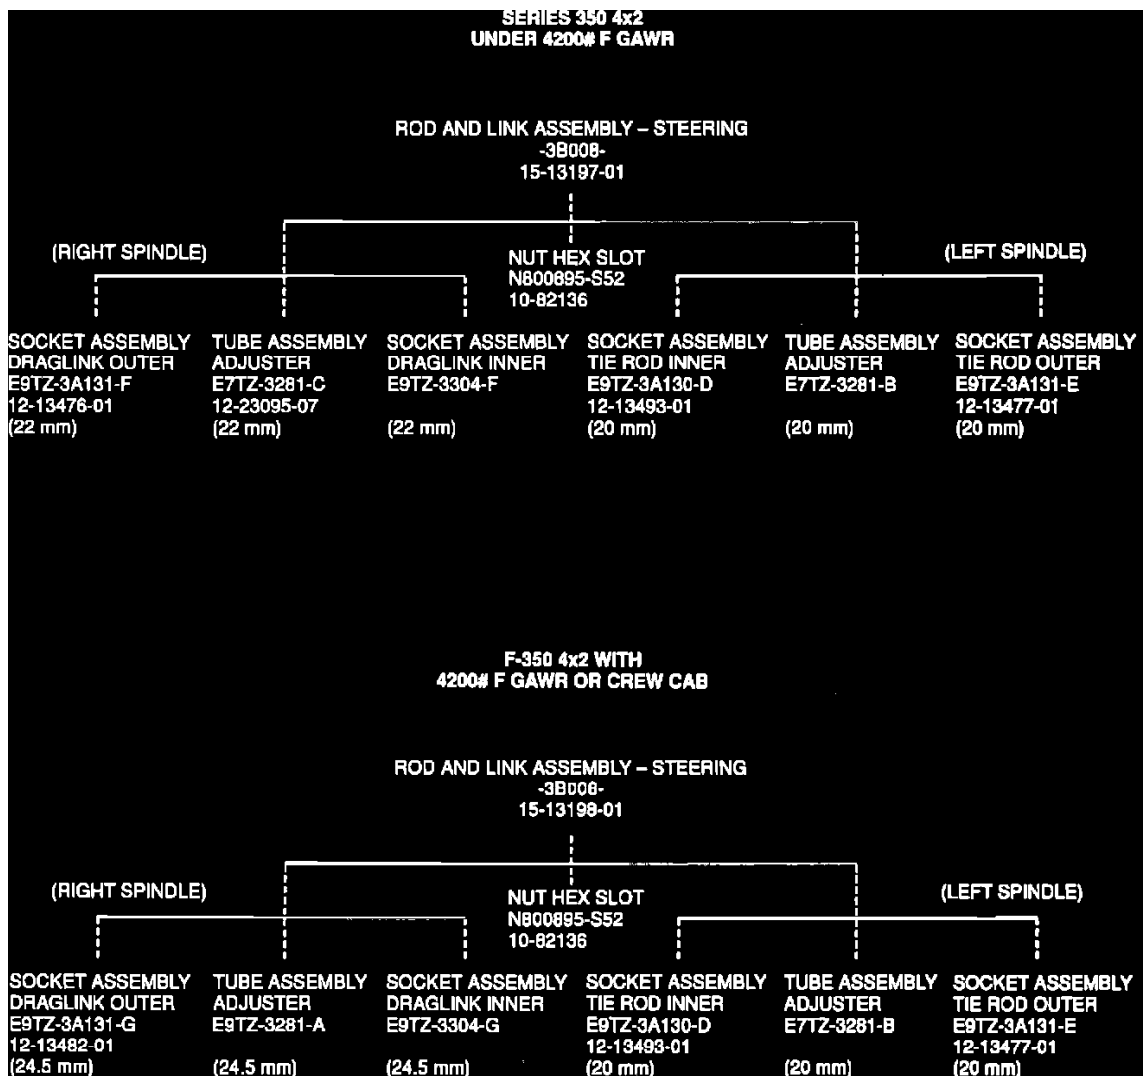

Figure 2
3. Remove the linkage from the truck, Figure 2.
Refer to Figure 2 for specific service part applications.